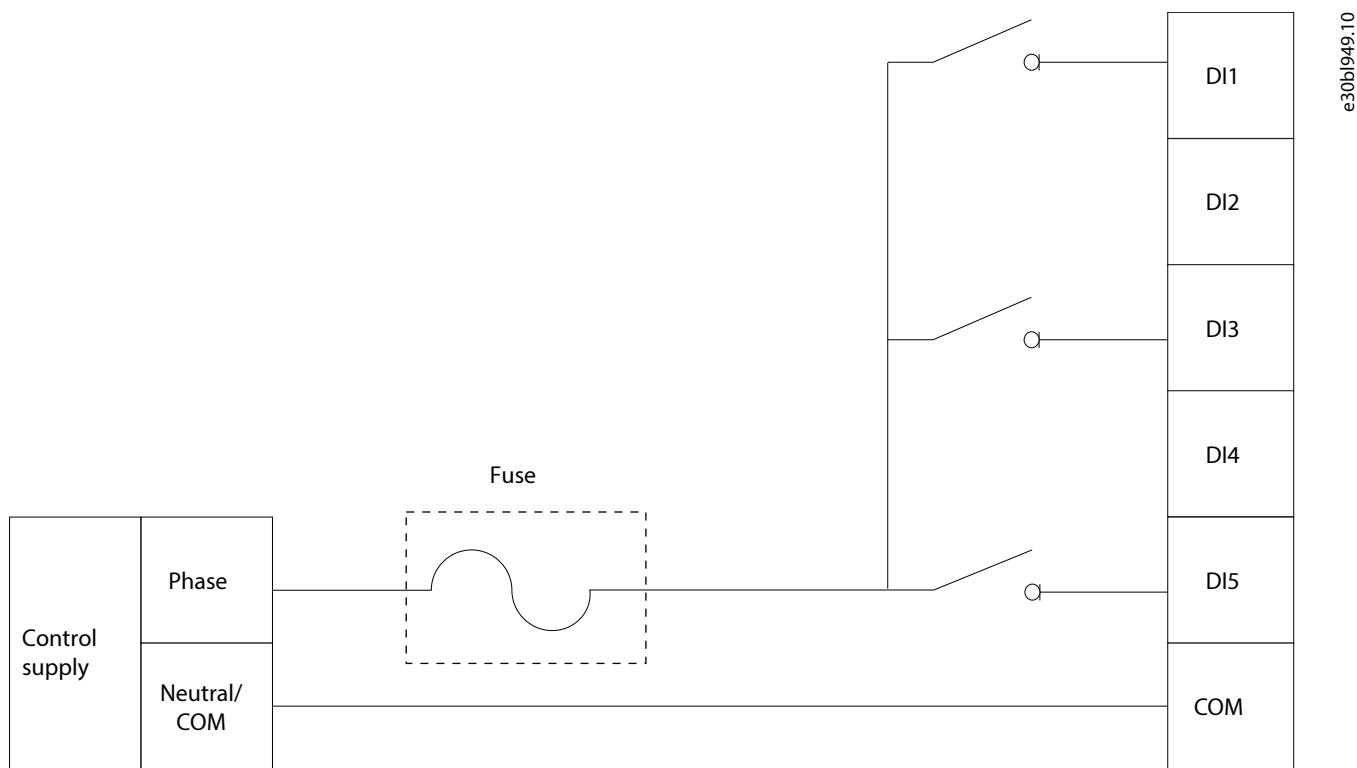

Figure 57: Wiring Configuration for Operation at 2000–4400 m (6560–14400 ft) Altitude using 3 Inputs
- Inputs 1, 3, and 5 must be used, and the same phase must be used for all inputs. See Figure 57.